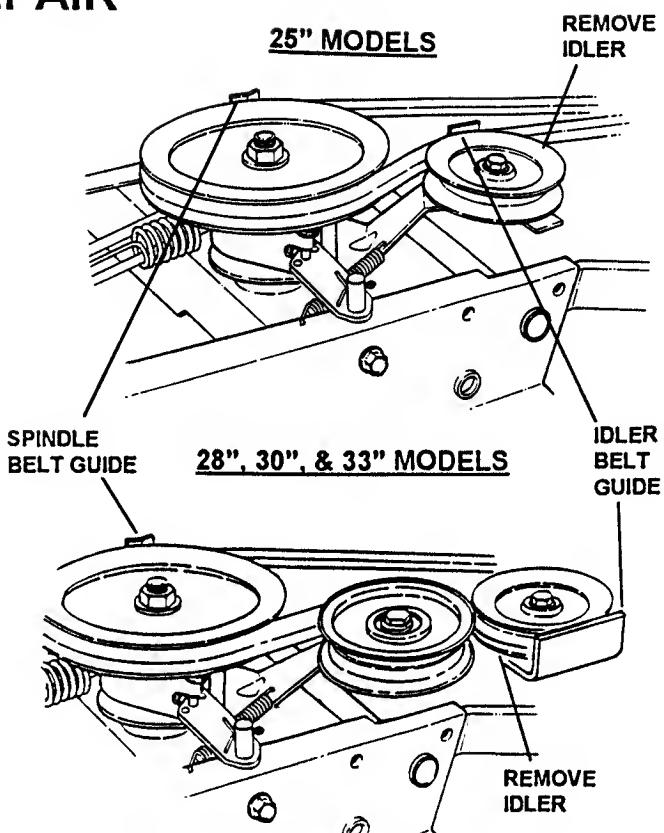

FIGURE 4.24
2. Move transmission shift lever to the neutral (N) position.
4. Route new belt through engine belt (engine belt guide shown in Figure 4.24) guide to engine pulley. Route belt as shown for the individual models shown in Figure 4.23.